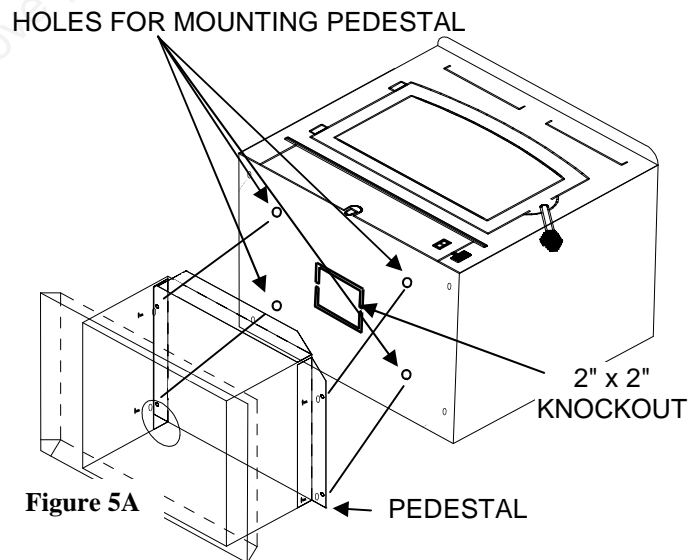

Figure 5A
6. **(Pedestal Kit):** If pedestal kit is being used (**and out side air is required see below, Out Side Air Installation**). Open freestanding kit and obtain stand. Place stand against bottom of heater (angle side to heater). Center stand front to rear and also center stand left and Right. Mark screw locations on bottom of stove through outer holes of stand mounting angles. Set stand aside and drill four 7/32" holes in heater bottom. Before attaching heater to stand, take a large flat screwdriver or pliers and remove the 2" x 2" knockout on bottom of unit. (See Figure 5A). Then mount stand to bottom of heater with screws provided. (See Figure 5A).
7. Obtain four (4) 3/16" self-tapping screws and secure stand to heater.